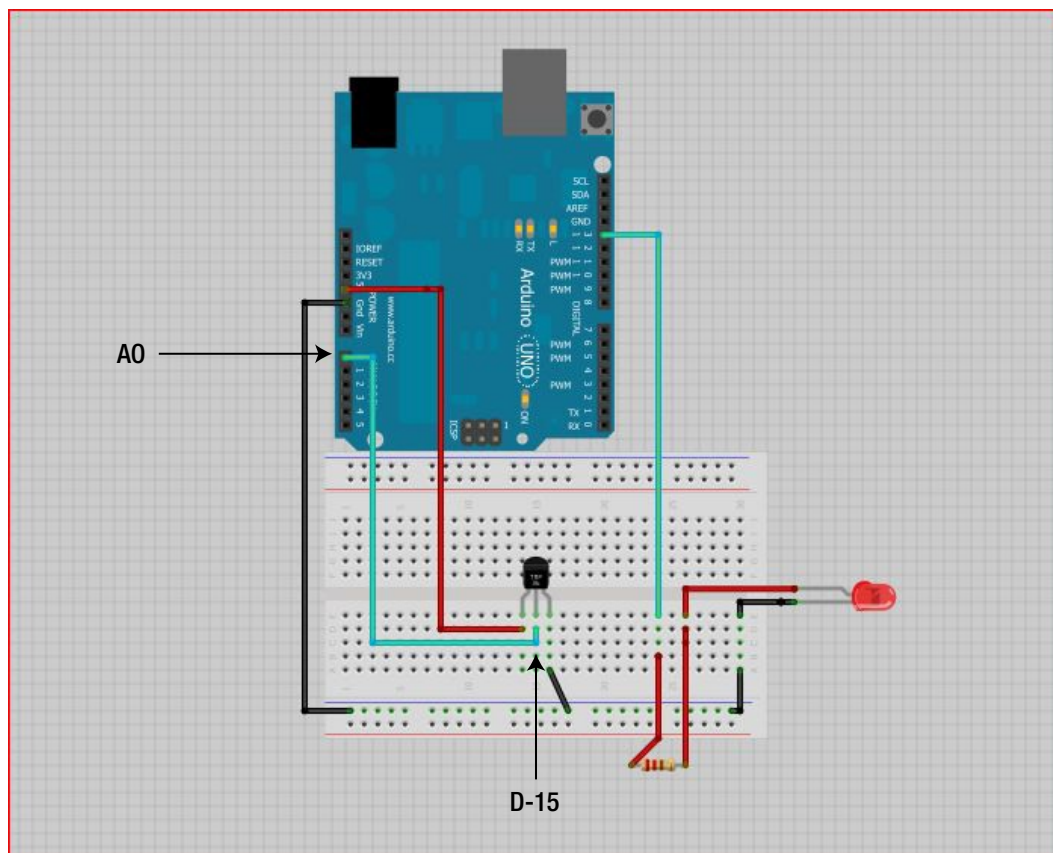

Figure 11-8. Connect the analog input pin 0 of the Arduino to the center pin on the TMP36
7. Finally, you'll use your last jumper wire to connect the Vout pin on the TMP36 to the analog 0 header on the Arduino, as shown in Figure 11-8. Insert one end of the jumper wire into Row 15, Column D (D-15) and the other end into the A0 header on the Arduino. (We used a green wire but any color will work.)